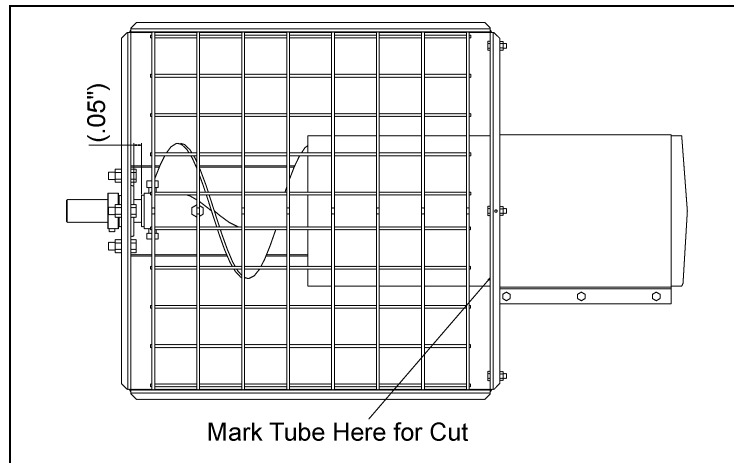

Figure 4C
- A. With the bearing attached slide the hopper onto the tube and align the end surface of the flight approximately 1/2" from the surface of the bearing. When the proper distance is achieved, mark the tube for the cut. (See Figure 4C)